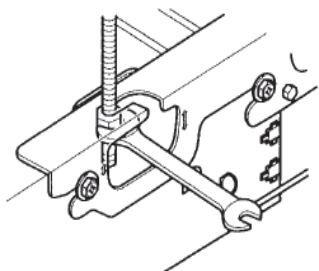

Figure 1-2-5
- Adjust the height by turning the nut with a spanner. Insert the spanner from the hanger bracket opening. (Refer to Figure 1-2-5)